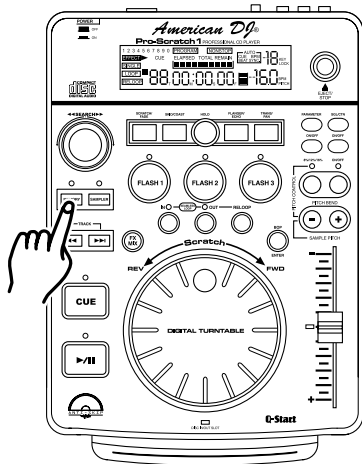

Figure 17
- 1) Press the **MEMORY CUE BUTTON (12)**, as in Figure 17. The red Memory Cue LED will glow indicating memory is ready to be stored. You may now press any one of the three **FLASH BUTTONS (6)** to store your cue point into memory (Figure 18). After pressing one of the **FLASH BUTTONS (6)**, the corresponding Flash Button LED will flash briefly. The LED will remain lit indicating either a sample or cue point is stored in memory. The red Memory Cue LED will now shut off.